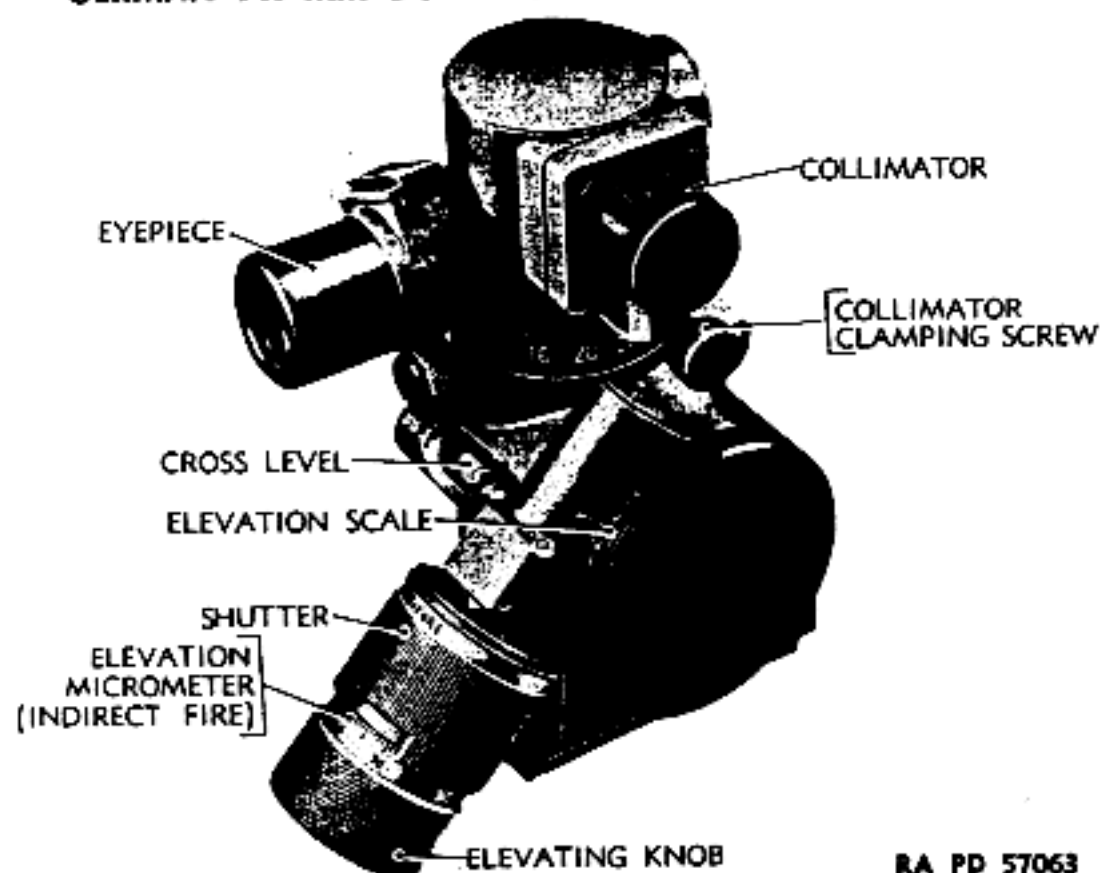

Figure 44 — Telescopic Sight for German 7.9-mm Dual Purpose Machine Gun MG34 — Rear View
(1) Turn the shutter to "INDIREKT" (fig. 44), exposing the elevation micrometer. Set the required elevation, in mils, on the elevation scale and elevation micrometer. The required setting for any given target will be the angle of site (in mils) plus the range elevation (in mils) plus 300 mils. Range elevation in mils can be read on the Overhead Firing Table (figs. 36 and 37).
(2) Set the azimuth scale and azimuth micrometer to the required deflection.
(3) Keep the machine gun leveled laterally to eliminate error due to cant. The machine gun is properly leveled when the cross-level bubble is centered.
(4) Traverse the machine gun while looking through the telescope eyepiece until the aiming point is centered in the telescope reticle. Elevate the machine gun until the cross-level bubble is centered.